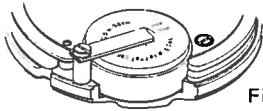

Fig. 3-3
- 1) After setting the power cell, hold it with a temporary power cell holding spring (necessary for ascertaining if the watch works) as shown in Fig. 3.3.